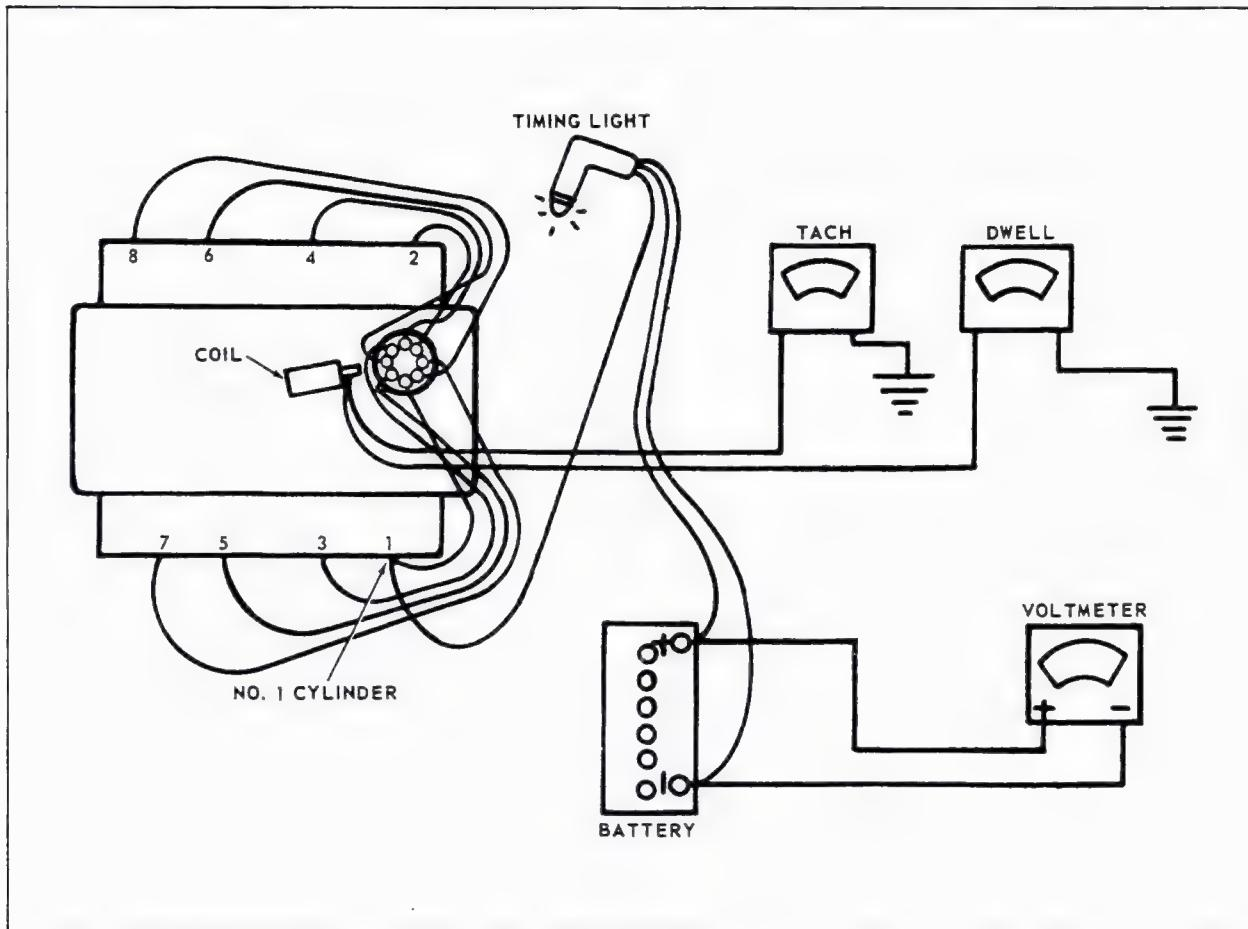

Fig. 6-51 Engine Tune-Up
Figure 6-51 illustrates the basic instrumentation required to perform the following tune-up procedures. If further testing is required such as coil tests, condenser tests, or cylinder leakage tests, the equipment manufacturer's recommendations, supplied with the test equipment to be used, should be followed for procedures. The specifications for such tests appear on page 6-48 of this manual.
The basic connections shown in Fig. 6-51 are as follows:
6. Connect tachometer, Fig. 6-51, to engine and set parking brake securely. Place transmission selector lever in neutral or park position.
1. With instruments connected as in Fig. 6-51, operate engine to a speed of 1500 to 2000 RPM.